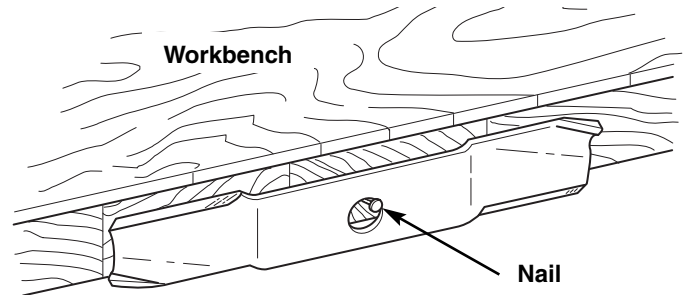

Figure 26. Balancing The Blade
6. Balance the blade as shown in Figure 26. Center the blade's hole on a nail lubricated with a drop of oil. A balanced blade will remain level. If the blade is not balanced, continue to sharpen the heavy side until it balances.